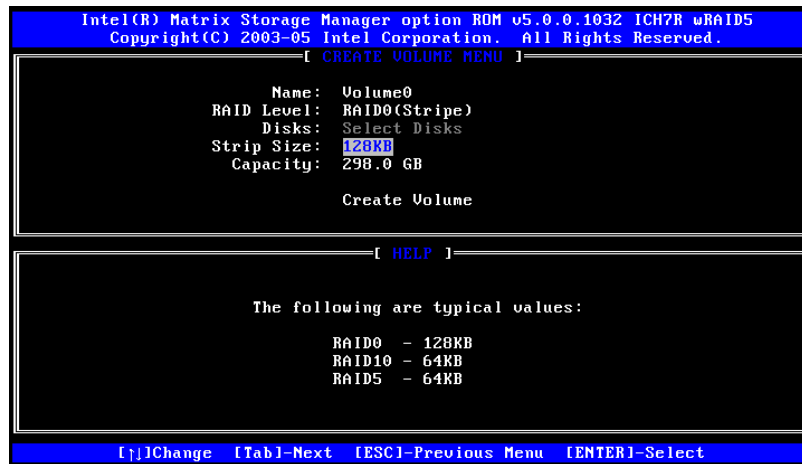

Figure E-4: Select the Stripe Size
Step 4: Select the Stripe Size. Select a stripe size from the list. See Figure E-4.